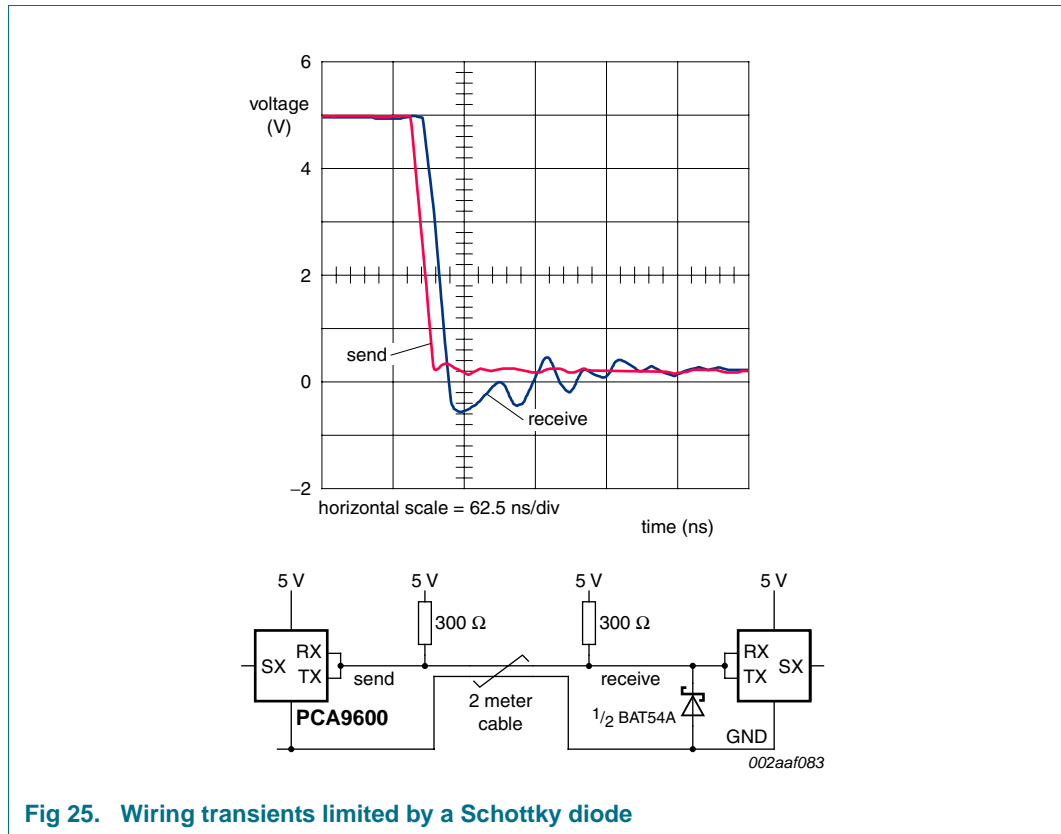

Fig 25. Wiring transients limited by a Schottky diode
**Answer:** No, it is not necessary to add any resistance. When the logic signal generated by TX or TY of PCA9600 drives long traces or wiring with ICs other than PCA9600 being driven, then adding a Schottky diode (BAT54A) as shown in Figure 25 will clamp the wiring undershoot to a value that will not cause conduction of the IC's internal diodes.